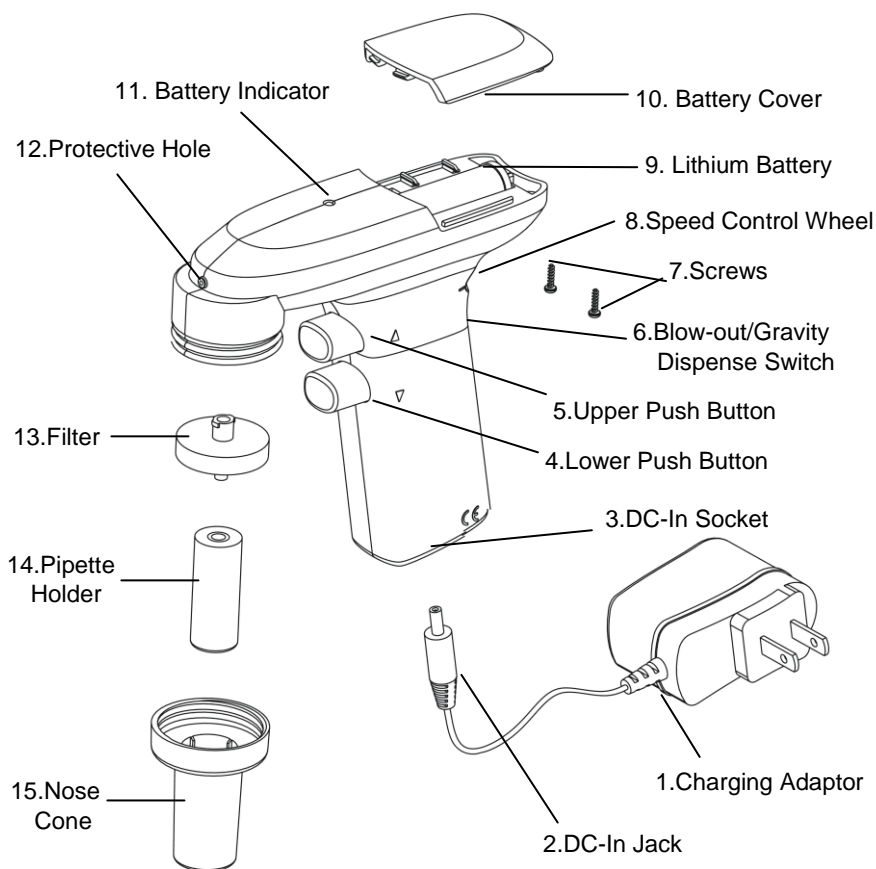

Figure 1. Overview of the CappAid™ Pipette Controller:
The hydrophobic filter(13) will require occasional replacement, particularly when aspirating speed is decreased. Rotate the nose cone(15) counter-clockwise direction to loose it (See Fig. 1). Remove or replace the wetted, dirty filter and worn pipette holder(14) with the new ones. Reassemble the device.